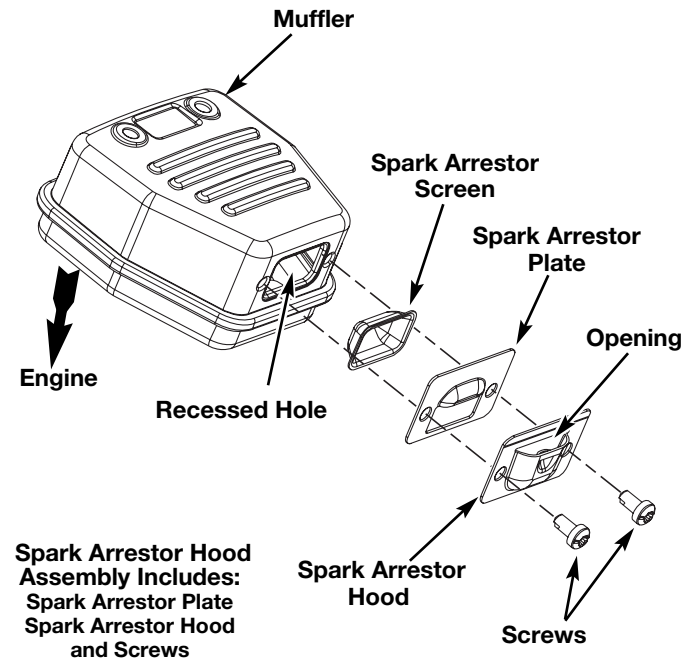

Fig. 26
2. Locate the muffler, but do not remove it. Find the two (2) screws on the bottom of the muffler (Fig. 26). These two screws hold the Spark Arrestor Hood Assembly and the spark arrestor screen to the bottom of the muffler. Remove the two (2) screws using either a torx #20 or flat blade screwdriver.
6. Place the spark arrestor plate on top of the spark arrestor with the “raised” side up and the opening facing towards the engine (Fig. 26).
7. Place the spark arrestor hood on top of the spark arrestor plate with the “raised” side up and the opening facing AWAY from the engine (Fig. 26). Verify that the exhaust will be directed AWAY from the engine.